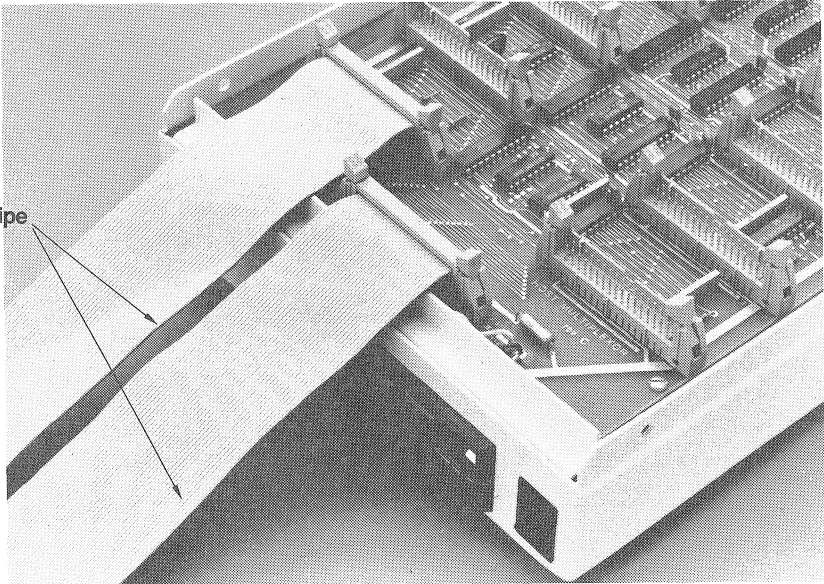

FIGURE 2.15 CORVUS MULTIPLEXER WITH ONE COMPUTER CABLE ATTACHED
For stand-alone Mirrors, the small end of the Remote Option cable attaches to the Mirror p.c. board. Off to the side of the drive and processor connectors on the Mirror board is a smaller connector. The Remote Option cable connects to this connector (see figure 2.15) so that the cable leads up and away from the Mirror p.c. board. When closing the Mirror box, the cable may then be fed through one of the same openings as the other two larger cables.
3. After disconnecting the flat cable from the interface card, attach the free end of this cable to the Multiplexer's disk connector (see figure 2.15), which is the single connector closest to the back end of the Multiplexer board.